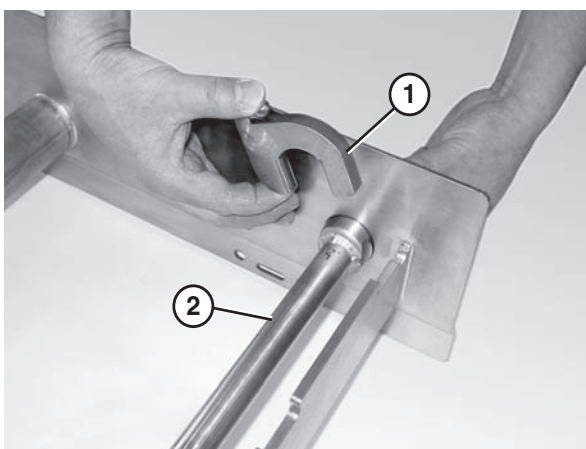

Figure 25
2. Attach the key stops (**Figure 25, item 1**) to the tip up shaft (**Figure 25, item 2**). The rounded end of the key stop should face the tail.